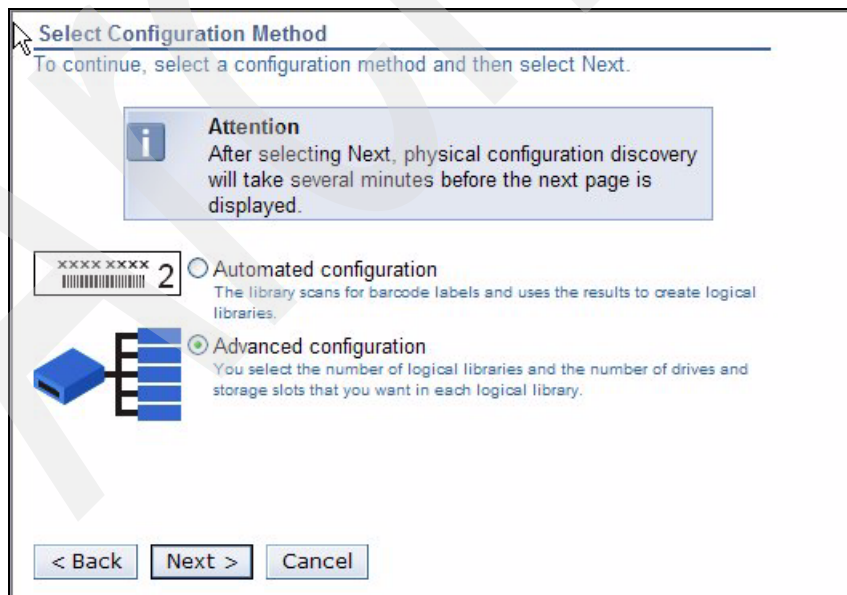

Figure 2-32 IBM TS3500 Tape Library Specialist configuration wizard
4. The **Select Configuration Method** window displays (Figure 2-32), showing the alternatives: **Automated configuration** (configuration with barcode labels) or **Advanced configuration**. Select **Advanced configuration** and click **Next**.